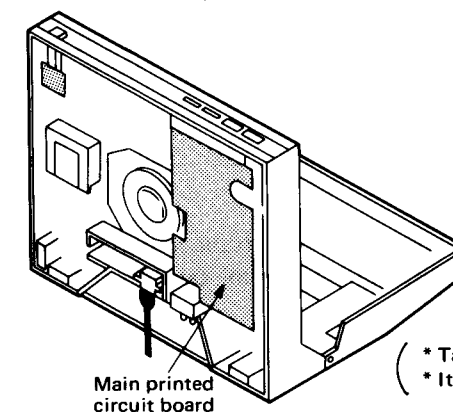

Fig. 21
5. Place the unit on the player repair table (Fig. 20) or carefully raise the unit after removing the 45-adaptor and turntable mat. (Fig. 21).